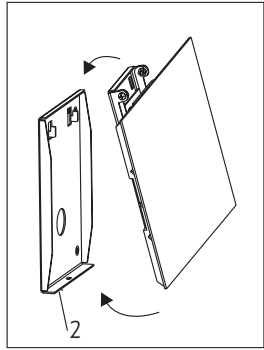

Fig3a
Lift the Monitor Plate against to the Wall Plate(2) with hole to hole, and according to the Fig 3a. Then slide the part a to the slot of the part b, as the Fig 3b shows. Then tighten the safety bolt.